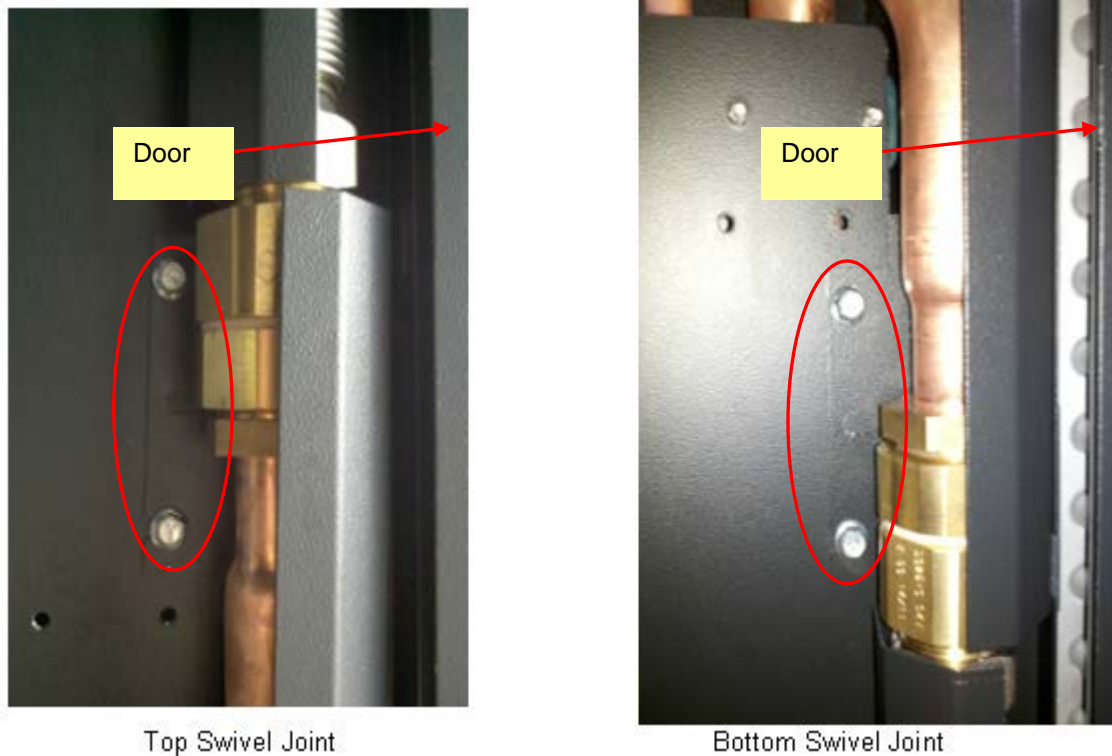

Figure 24 Inside swivel joint covers
- 15** In the last step connect the grounding wire of the door to the frame of the Knürr DCD (Figure 24).